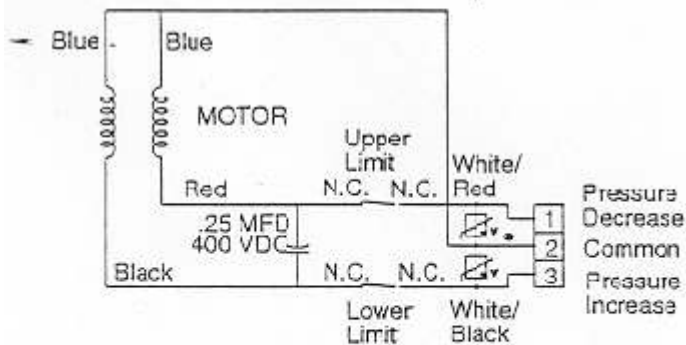

Figure 4. AC Control Unit Motor Schematic
Operation of the external SPDT switch so as to connect the Hi side of the AC line to the left terminal (1) of the terminal block will cause regulator output pressure to increase. For more information, see Figure 4. below.